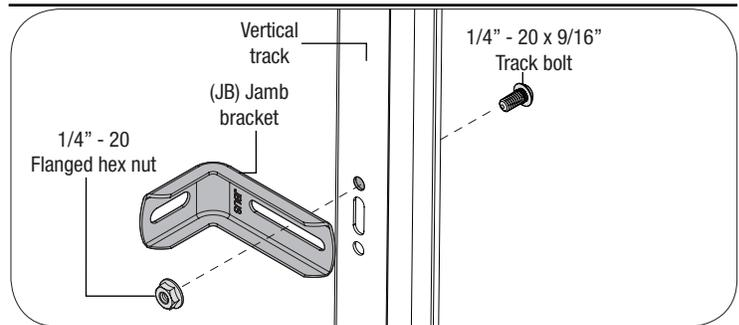

FIG. 2.1
Loosely fasten the (JB) jamb bracket to the track with a 1/4" - 20 x 9/16" track bolt and 1/4" - 20 flange hex nut, as shown in **FIG. 2.1**.